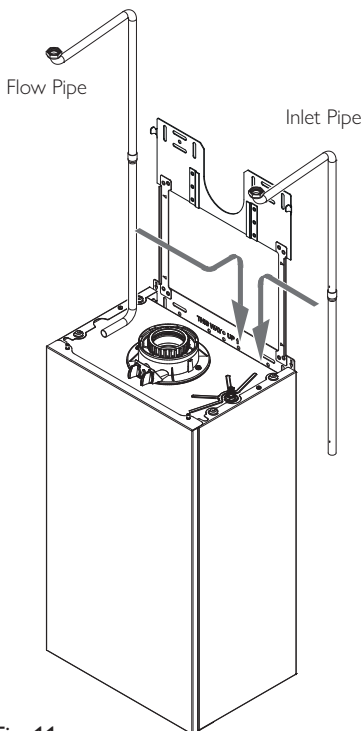

Fig. 11
3. After identifying the FGHR inlet and flow pipes (Fig. 11), manoeuvre them into place behind the boiler.